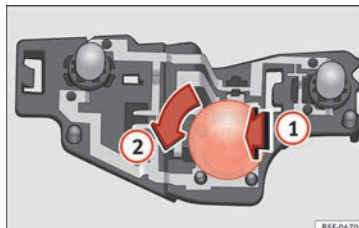

Fig. 115 Position of the bulbs in the bulb holder
- Lightly press the defective bulb into the bulb holder **1**, then turn it to the left **2** and remove it » **Fig. 115**.